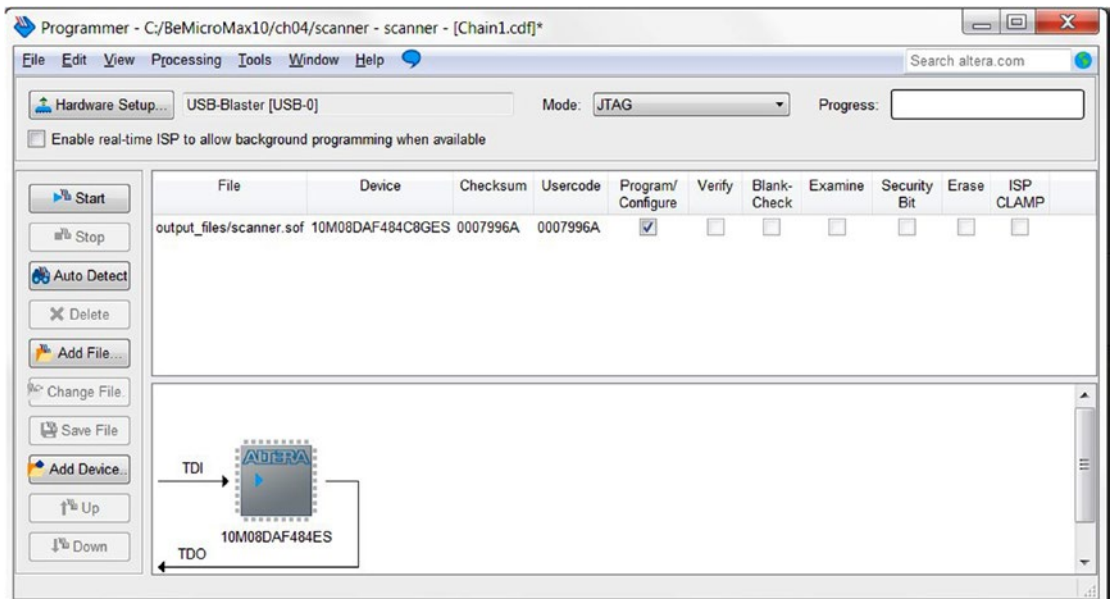

Figure 4-60. Programmer—Setting
5. All of the settings should look like Figure 4-60. When you're sure you want to proceed, click the **Start** button and wait while it writes the bitstream to the MAX10's SRAM. The LED (D11) on the board will glow green while this is in progress. Don't disconnect the board while this is in progress or you risk damaging the FPGA.